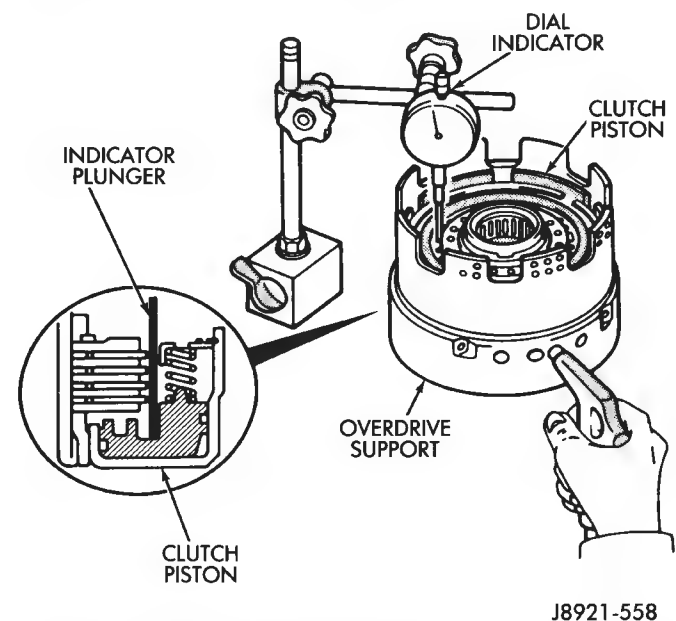

Fig. 4 Checking Direct Clutch Piston Stroke Length
- (5) Mount dial indicator on clutch and position indicator plunger on clutch piston (Fig. 4).
- (6) Apply 57-114 psi air pressure through feed hole in overdrive support and note piston stroke length (Fig. 4). Check stroke at least twice.
- (7) Piston stroke length should be 1.37 mm - 1.67 mm (0.054 - 0.065 in.). If stroke length is incorrect, either the clutch pack retainer or clutch discs will have to be replaced.